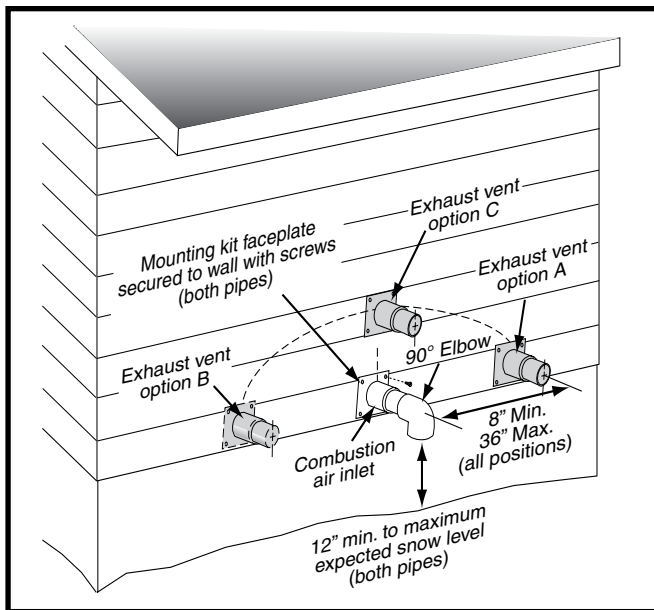
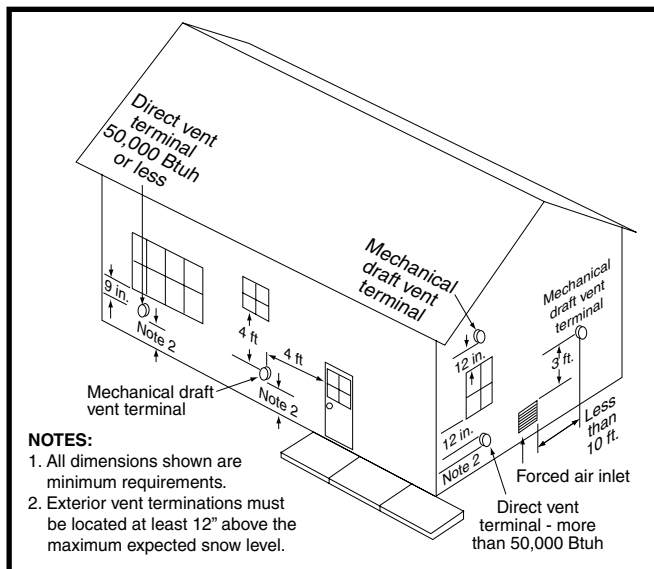
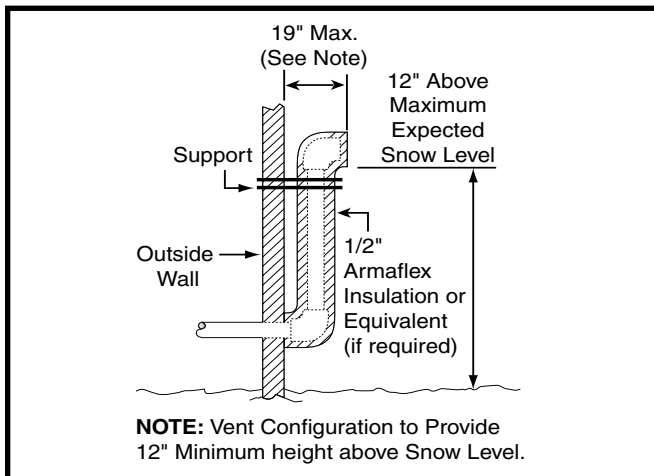
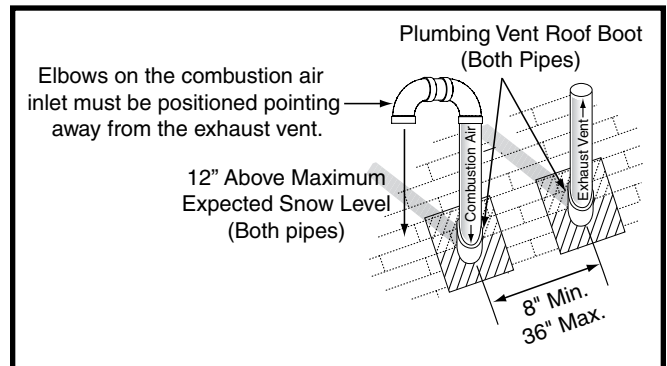

Figure 1. Inlet & Exhaust Pipe Clearances
Figure 2. Vent Locations
Figure 3. Alternate Horizontal Vent Installation
Figure 4. Vertical Vent Termination
- The combustion air intake and the vent exhaust must be located in the same atmospheric pressure zone. This means both pipes must exit the building through the same portion of exterior wall or roof as shown in Figure 1, Figure 2, Figure 4, and Figure 29 \(page 38\).
- Vent and combustion air intake terminations shall be installed as shown in Figure 1, Figure 2, Figure 3, and Figure 4 in accordance with these instructions:
- All minimum clearances (Figure 2 \(page 9\)) must be maintained to protect building materials from degradation by flue gases.
- When the vent pipe must exit an exterior wall close to the grade or expected snow level where it is not possible to obtain clearances shown in Figure 1, a riser may be provided as shown in Figure 3. Insulation is required to prevent freezing of this section of pipe. See Table 3, (page 10) for vent freezing protection.
Termination spacing requirements from the roof and from each other are shown in Figure 4. The roof penetration must be properly flashed and waterproofed with a plumbing roof boot or equivalent flashing. Vent and combustion air piping may be installed in an existing chimney which is not in use provided that:
- The termination clearances shown in Figure 4 are maintained.